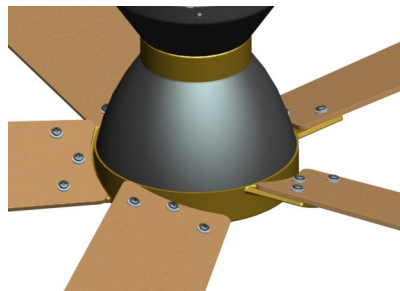

Fig 7.2
7.2 Install five blades as shown in Fig 7.2.